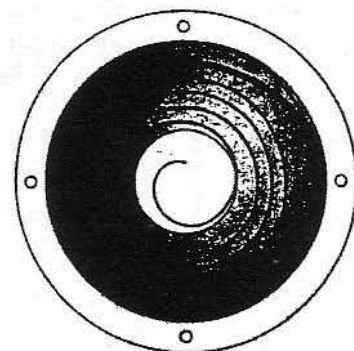

Fig. 6
17. Remove the intermediate wheel and pinion No. 3497. Only the two assemblies last mentioned should be lubricated slightly (Chronax D or E or Moebius No. 3). Lubricate after cleaning and check the condition of the pivots and holes. See fig. 6 for details of mainspring and bridle.